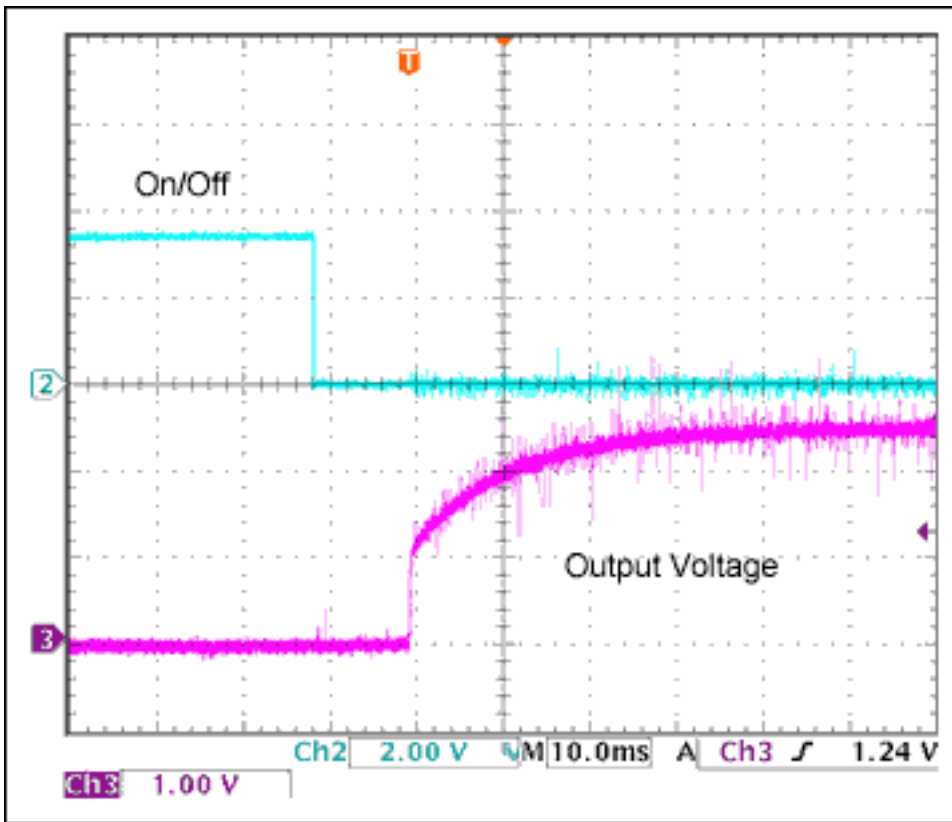

Figure 2. Output voltage at startup using the ON/OFF feature of 8540.
An alternate method used in the application circuits for setting the over-voltage and under-voltage trip points is demonstrated in **Figure 2**. Use 36.5kΩ for the bottom resistor (R3). R2 and R1 are calculated as follows:
3. Output voltage at startup (Figure 2) employing the ON/OFF feature of the MAX8540.